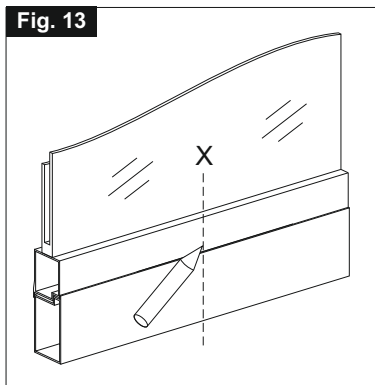

Fig. 14
- 3) **Fig. 14-** Apply the template (POS.2) on the window frame aligning it with the previously drawn centre line "X";